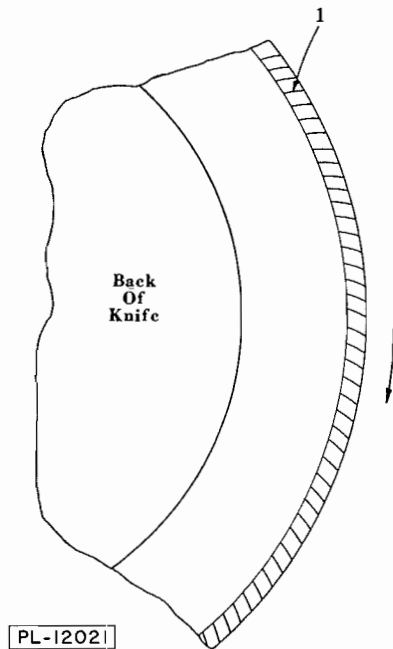

Fig. 5
6.10 Check to make sure that the characteristic grind marks (1, Fig. 5) are plainly visible on the ground surface, if not the grinding wheel is not cutting. (Many operators try to sharpen a knife with a grease-loaded stone which will not cut).
7.8 Check to make sure that the characteristic grind marks (1, Fig. 5) are plainly visible on the ground surface, if not the grinding wheel is not cutting. (Many operators try to sharpen a knife with a grease-loaded stone which will not cut).